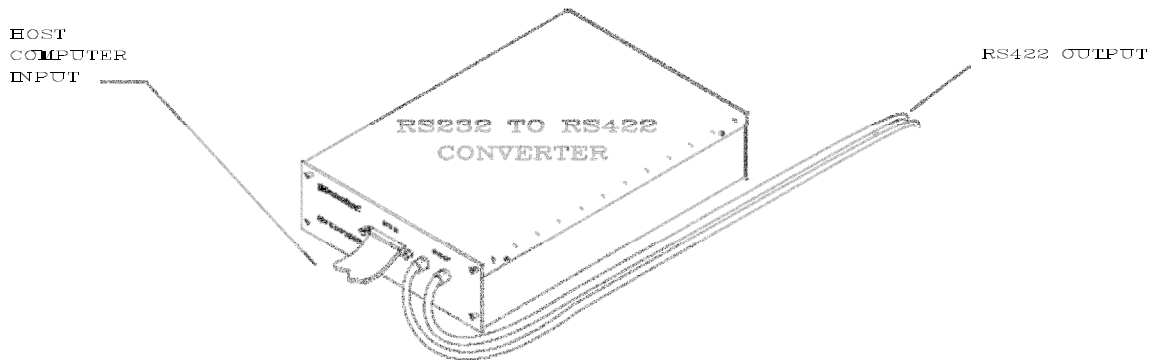

FIGURE 1-5. COMPUTER INTERFACE
1.4.3 Computer Interface Options (Ref. Fig. 1-5)